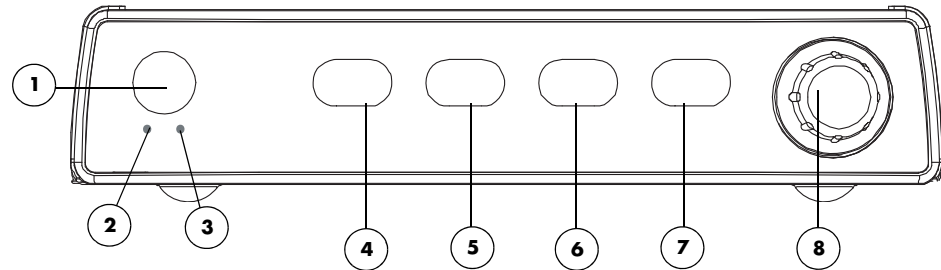

FIGURE 1-2 Keypad
The **Trio** is a vital signs monitor intended for intra-hospital use on human patients. It is adaptable for use with adult and pediatric patients. The **Trio** is a three (3) to four (4) trace monitor. The unit has many features and functions, yet is easy to use through an integrated keypad, Navigator™ Knob (see FIGURE 1-2) and an intuitive menu system. Refer to Front Panel Keypad for details.
The front panel keypad is used to access many main functions quickly and easily (see FIGURE 1-2).